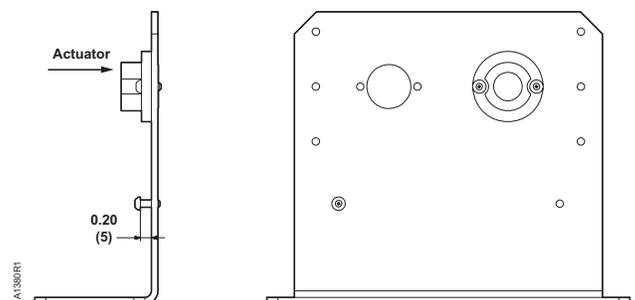

Figure 1. Anti-rotation Screw Location.
- After determining the desired actuator position on the bracket, assemble the bushing to the bracket with two thread-forming screws. The bushing should always be assembled so that the protruding side faces the actuator. See Figure 1.
- Drive one of the thread forming screws into one of the two lower holes in the bracket leaving approximately 5 mm (.197) under the head of the screw exposed to provide anti-rotation for the actuator. See Figure 1.